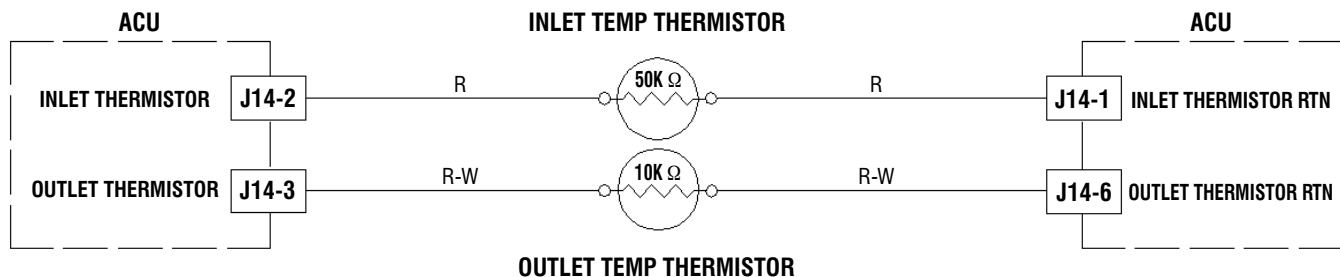

Figure 1 - Thermistors Strip Circuit
**NOTE:** On the electric dryer, the inlet thermistor is part of the high thermostat assembly (see figure 1, page 3-13). On the gas dryer, the inlet thermistor is located at the drum inlet duct (see figures 1 & 2, page 3-3).